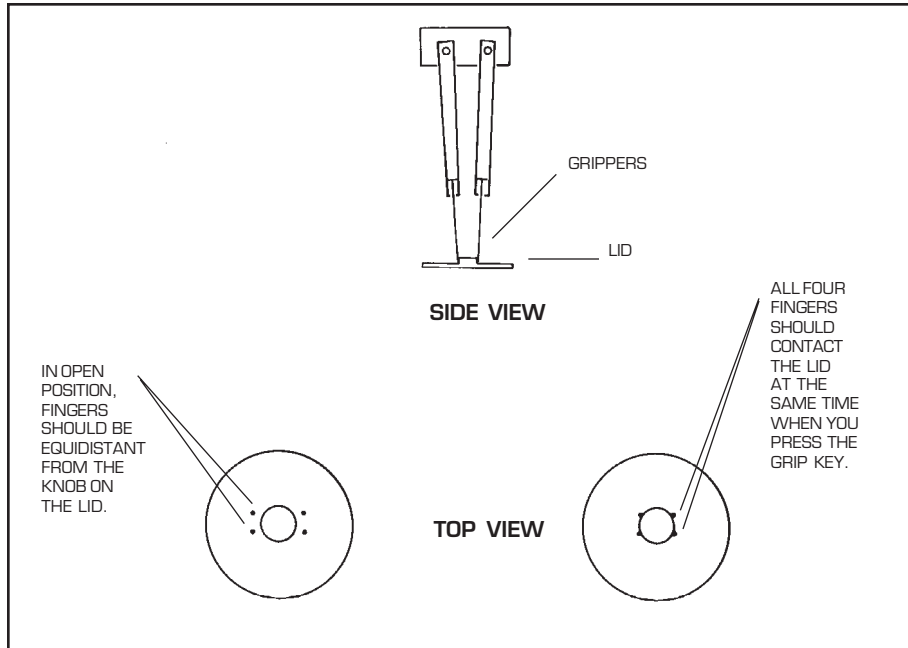

Figure 4.1
7. Use the motion keys to position the lid in its correct cell calibration position (see Table 4.1). Press the RELEASE and GRIP keys repeatedly to ensure that the fingers can firmly grasp the lid, and watch carefully to ensure that each finger contacts the lid at the same time (see Figure 4.1).
14. When the turret stops moving, close and open the grippers again and check your calibration against the criteria in Figure 4.1. Remember to release the lid. If the position is correctly calibrated, go on to step 15. If it is not, repeat steps 4 through 14 with lid #1.